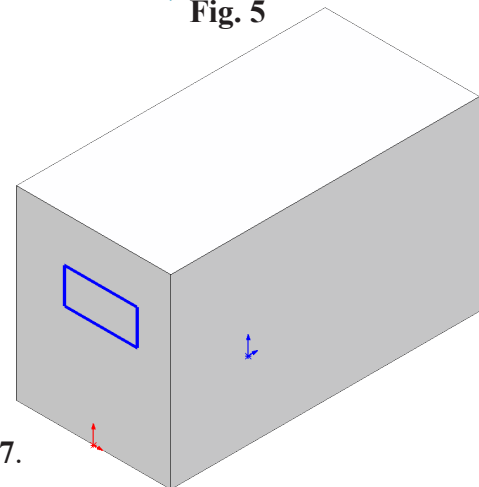

Fig. 6
Step 5. Sketch a **corner rectangle**, **Fig. 6**.